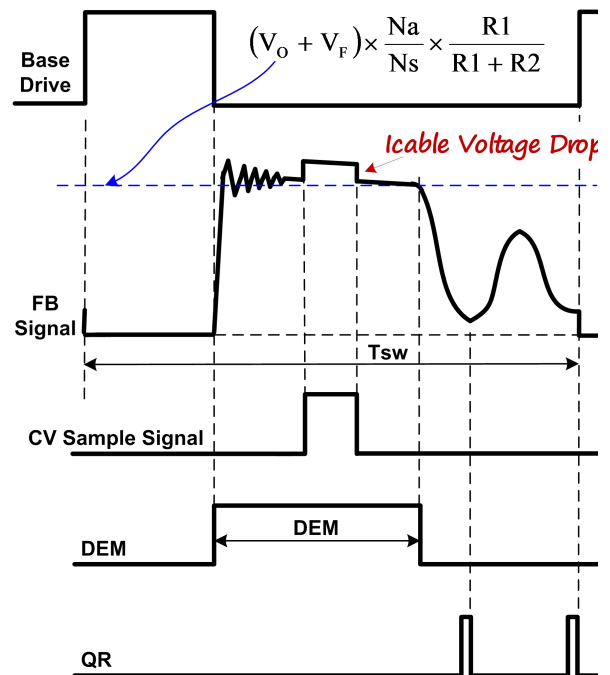

Fig.2
In Primary Side Regulation (PSR) control, the output voltage is sensed on the auxiliary winding during the transfer of transformer energy to the secondary. Fig.2 illustrates the timing waveform of CV sampling signal, demagnetization signal (DEM) and quasi-resonant (QR) trigger signal in DP2522. When the CV sampling process is over, the internal sample/hold (S&H) circuit captures the error signal and amplifies it through the internal Error Amplifier (EA). The output of EA is sent to the Quasi Resonant PSR CV Modulator (QR-CVM) for CV regulation. A valley is selected to trigger new PWM cycle by the output of the QR-CVM block, which is determined by the load. The internal reference voltage for EA is trimmed to 2V with high accuracy.
demagnetization process, as shown in Fig.2. Fig.2 also illustrates the equation for “demagnetization plateau”, where Vo and VF is the output voltage and diode forward voltage; R1 and R2 is the resistor divider connected from the auxiliary winding to FB Pin, Ns and Na are secondary winding and auxiliary winding respectively.